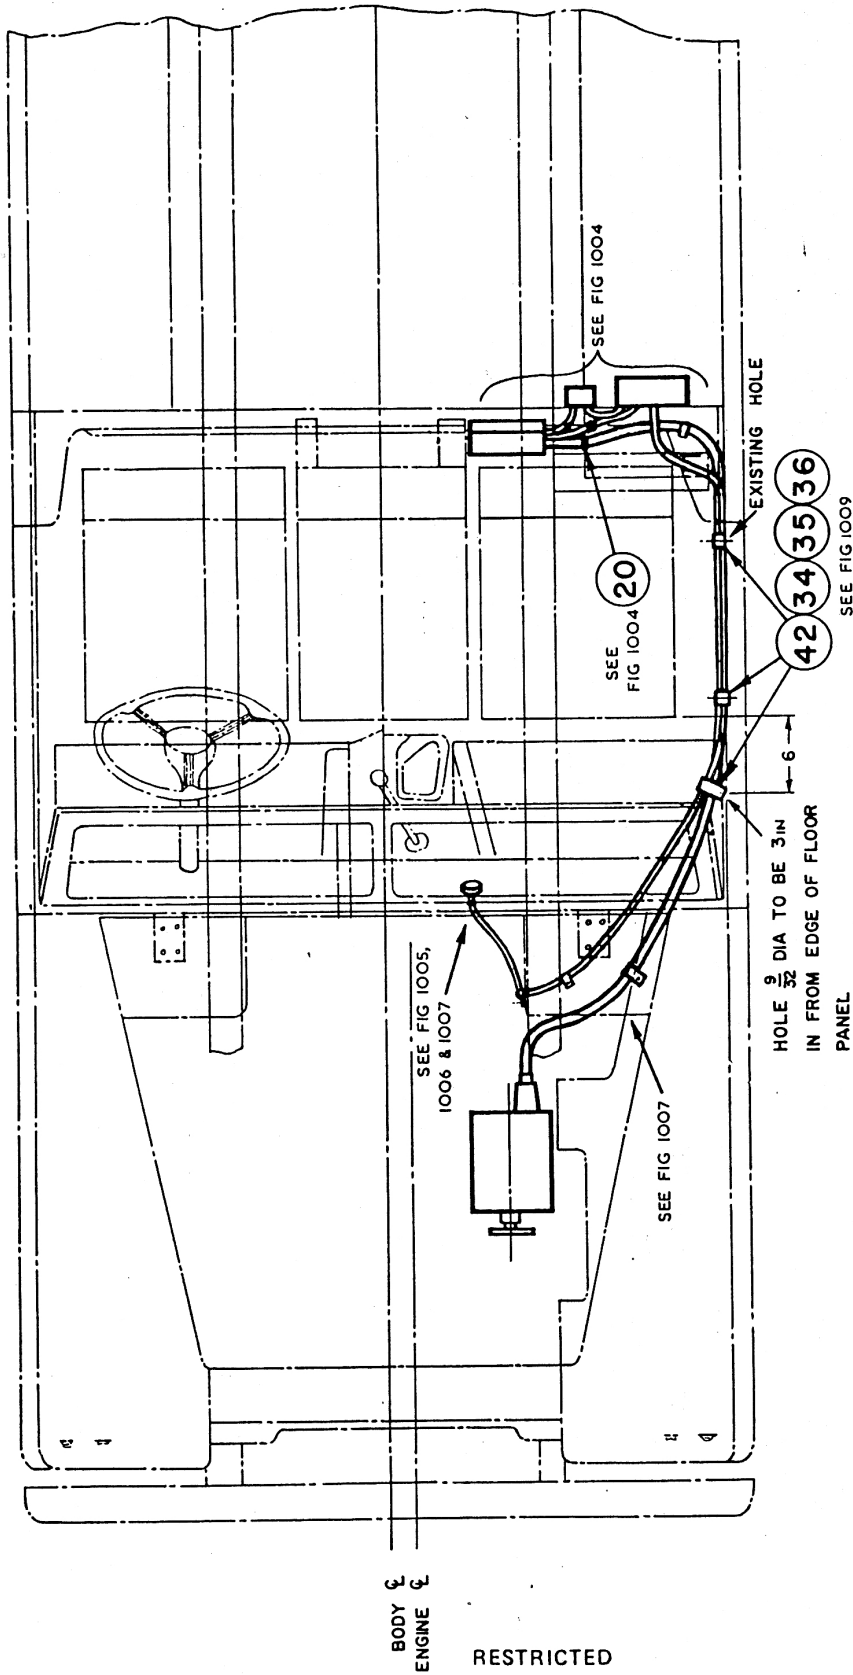

FIG 10 - CONDUIT LAYOUT - PLAN
- d. One 7/32 inch hole in the panel at the right of the foot rest and one 9/32 inch hole in the floor panel (fig 10).